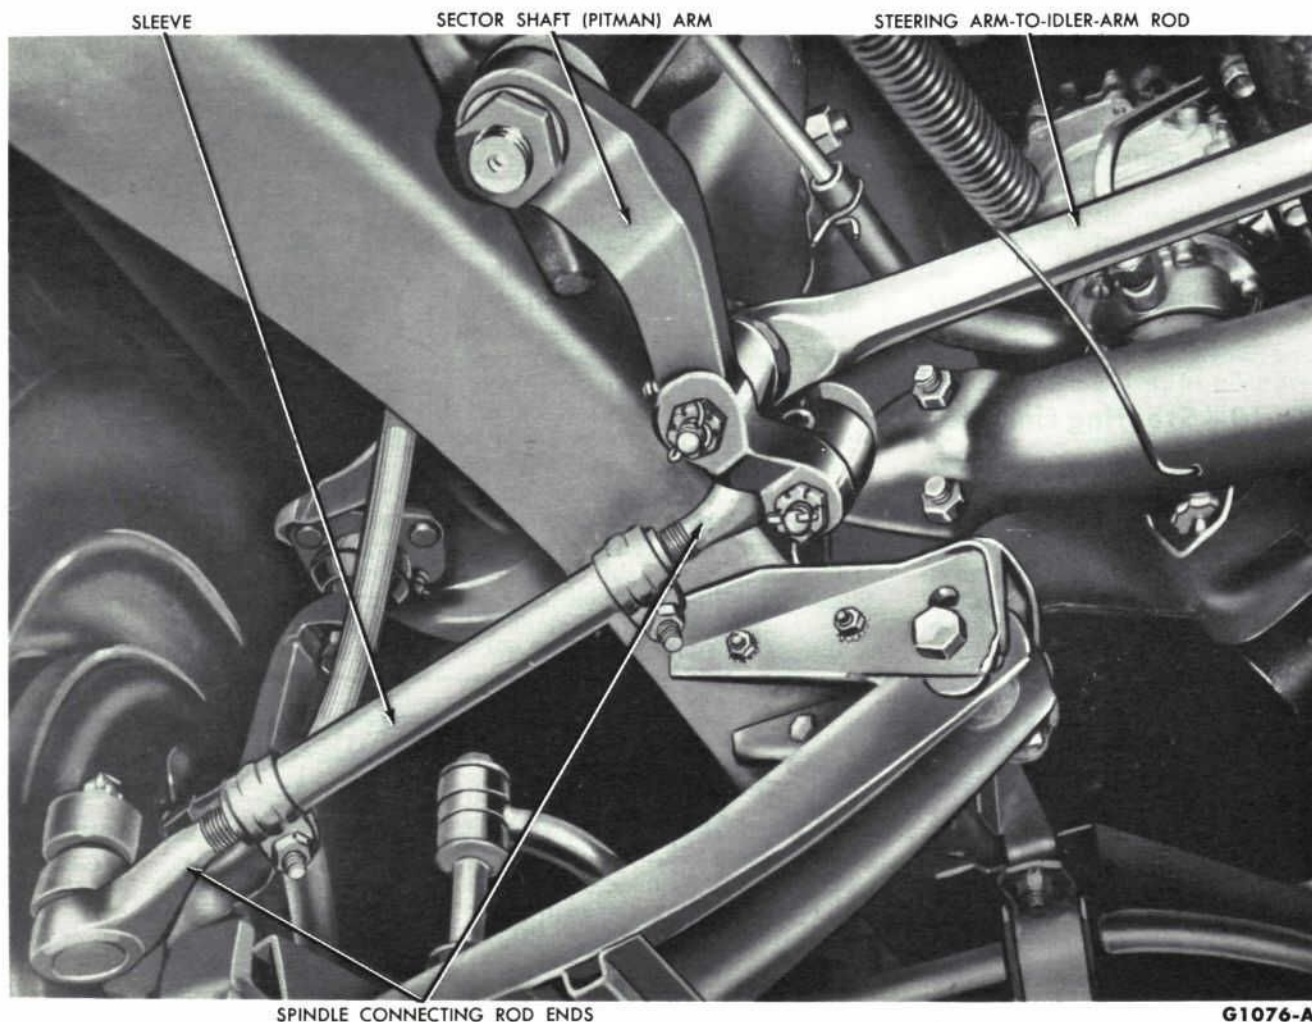
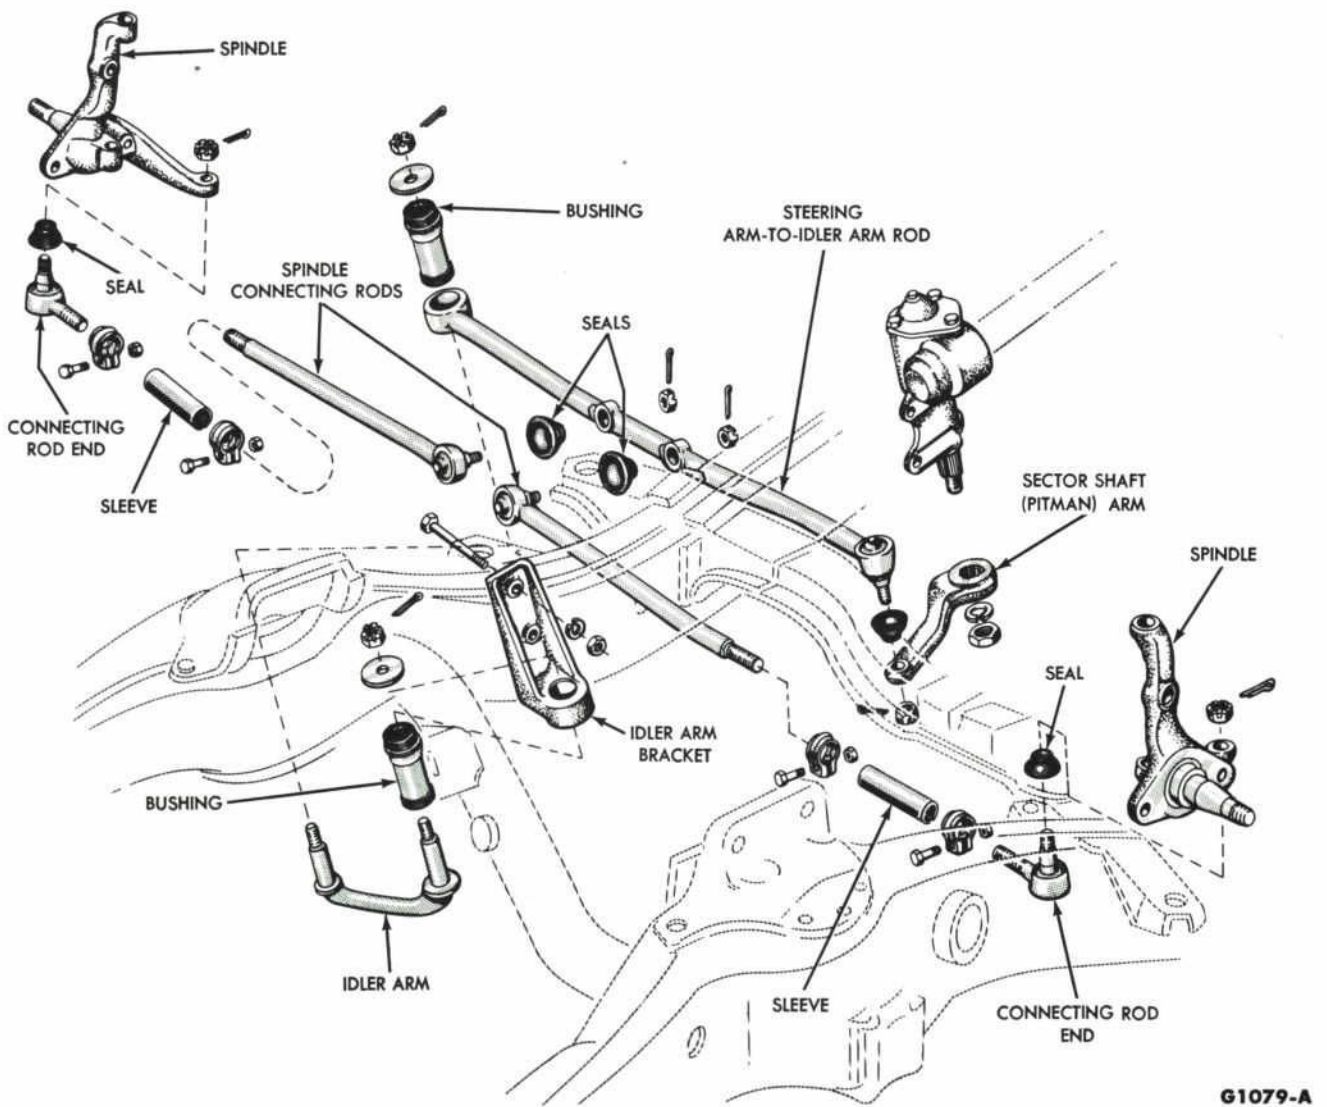
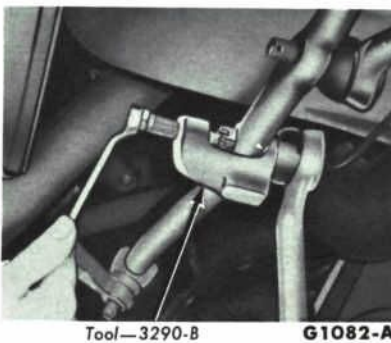

FIG. 8— Spindle Connecting Rod
FIG. 10—Steering Linkage
FIG. 9—Ball Stud Removal
1. Raise the car and install safety stands. Remove the cotter pin and nut from the rod end ball stud (Fig. 8). Loosen the connecting rod sleeve clamp bolts and remove the rod end from the spindle arm, as shown in Fig. 9.
1. Remove the cotter pin and nut which attach the spindle connecting rod ball stud to the steering arm to idler arm rod (Fig. 10). Remove the ball stud from the rod (Fig. 9). Be careful not to loosen or bend any other parts on the steering arm to idler arm